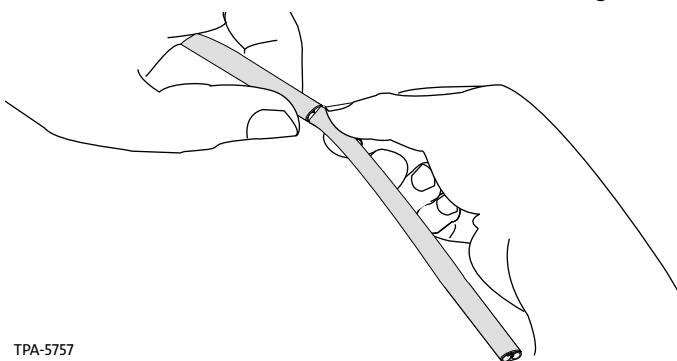

Figure 9
- Carefully flex the cable sheath to break it at the score point. Slide the severed section of sheath off the sub-units (Figure 9).